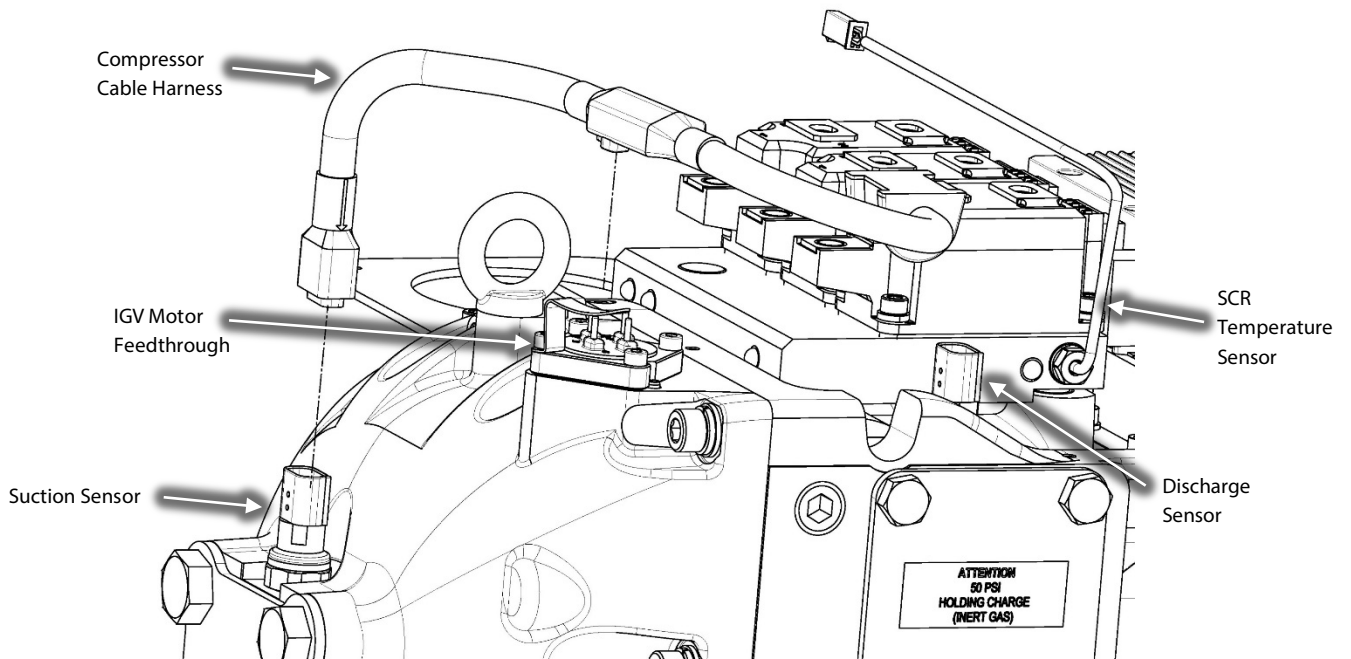

Figure 13 – Compressor Cable Harness Removal
- Disconnect the compressor cable harness from the IGV Motor, Suction and Discharge Sensors, and SCR Temperature Sensor. Refer to Figure 13 (Compressor Cable Harness Removal).